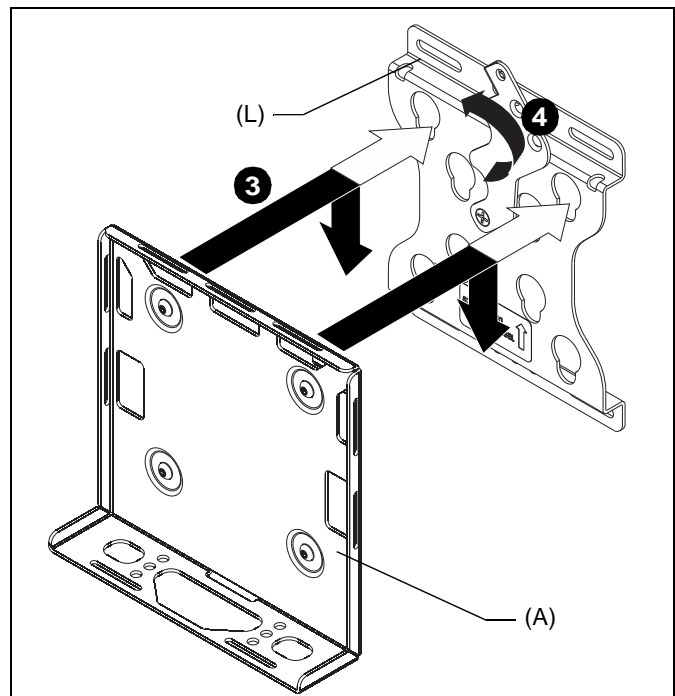

Figure 3
1. Install FSR1U assembly (L) to wall according to FSR1U installation instructions.
3. Maneuver media player mount (A) so that all mounting buttons fit into openings of FSR1U (L). See FSR1U Installation Instructions for further details. (See Figure 3)
4. Move latching flag into closed position to secure bracket to FSR1U. (See Figure 3)